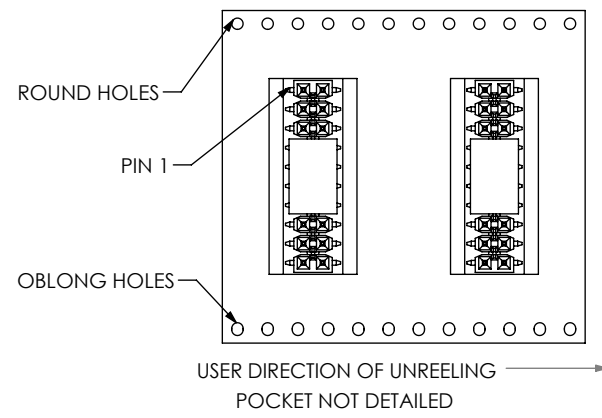

FIG 8
- TR: TAPE AND REEL (SEE FIG 8, SHT 3) (02 THRU 28 POS)